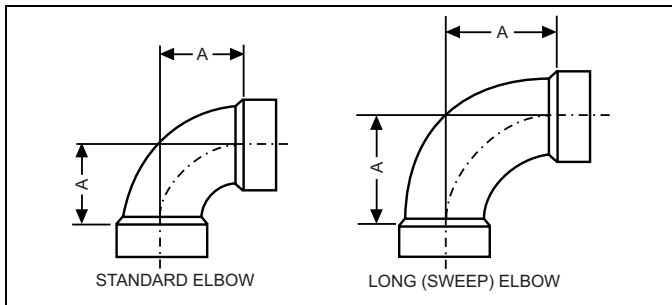

FIGURE 28: Dimensions
1. Drain, waste, and vent (DWV) elbows with a long radius (sweep) are recommended. Standard DWV elbows may be used, but since they have a longer equivalent length, they will reduce the total length of pipe that will be allowed. Short radius (plumbing or pressure) elbows are not allowed for venting. The standard dimensions of the acceptable elbows are shown in Figure 28.
Elbow	"A" Dimension (Illustrated in Figure 28)